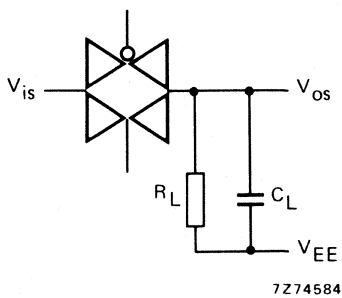

Fig. 3
- $R_L = 10 \text{ k}\Omega$ ;  $C_L = 15 \text{ pF}$ ; channel ON;  $V_{is} = \frac{1}{2} V_{DD(p-p)}$  (sine-wave, symmetrical about  $\frac{1}{2} V_{DD}$ );  $f_{is} = 1 \text{ kHz}$ ; see Fig. 3.
- $R_L = 1 \text{ k}\Omega$ ;  $C_L = 5 \text{ pF}$ ; channel OFF;  $V_{is} = \frac{1}{2} V_{DD(p-p)}$  (sine-wave, symmetrical about  $\frac{1}{2} V_{DD}$ );  $20 \log \frac{V_{os}}{V_{is}} = -50 \text{ dB}$ ; see Fig. 3.
- $R_L = 1 \text{ k}\Omega$ ;  $C_L = 5 \text{ pF}$ ; channel ON;  $V_{is} = \frac{1}{2} V_{DD(p-p)}$  (sine-wave, symmetrical about  $\frac{1}{2} V_{DD}$ );  $20 \log \frac{V_{os}}{V_{is}} = -3 \text{ dB}$ ; see Fig. 3.